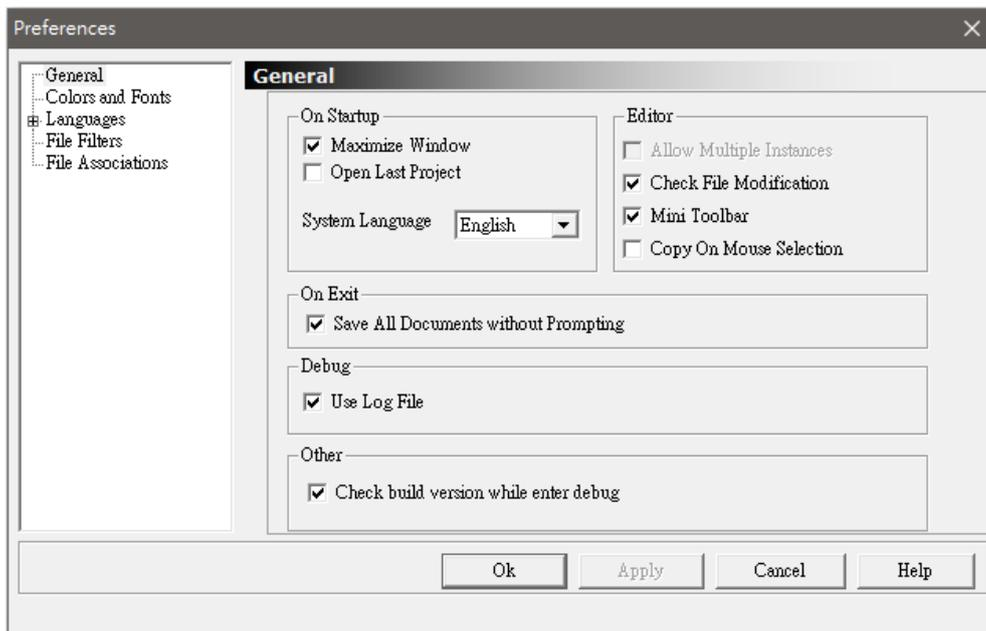

Figure 4.10 General settings (General)
1. **General** – general settings ( as shown in Figure 4.10 )